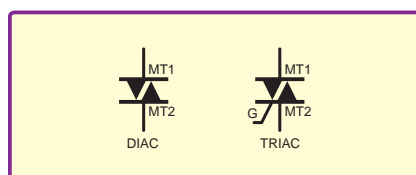

Fig.1. Diac and Triac symbols
Triacs are a member of a family of devices that also includes diacs, SCRs and more exotic components such as MOS thyristors. All these devices are bistable – that is, they have two states of operation, with different levels of conductivity between the main terminals in the two states. In the ‘on’ state they have low impedance, which is maintained as long as the current through the main terminals remains above a certain limit known as the ‘holding current’. In the ‘off’ state they have very high impedance, which is maintained as long as the applied voltage is below a certain limit known as the ‘forward breakover voltage’. Diac and triac circuit symbols are shown in Fig.1.
one direction and behave as reverse-biased diodes in the other direction – for these devices, the main terminals are designated anode (A) and cathode (K). Other devices, such as diacs and triacs, conduct in both directions; here the main terminals are simply called main terminal 1 (MT1) and main terminal 2 (MT2), as shown in Fig.1.